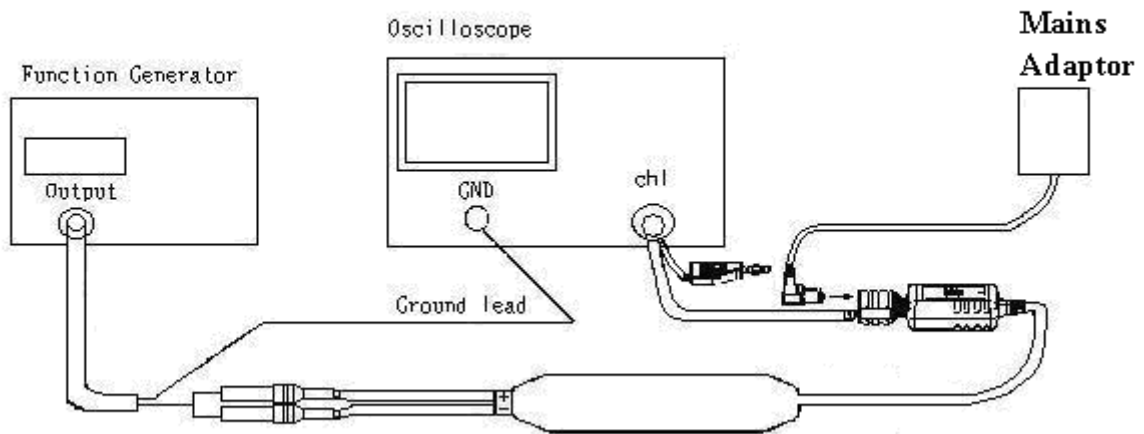

Fig. 7
- F-1. Connect the probe as shown in Fig. 7.